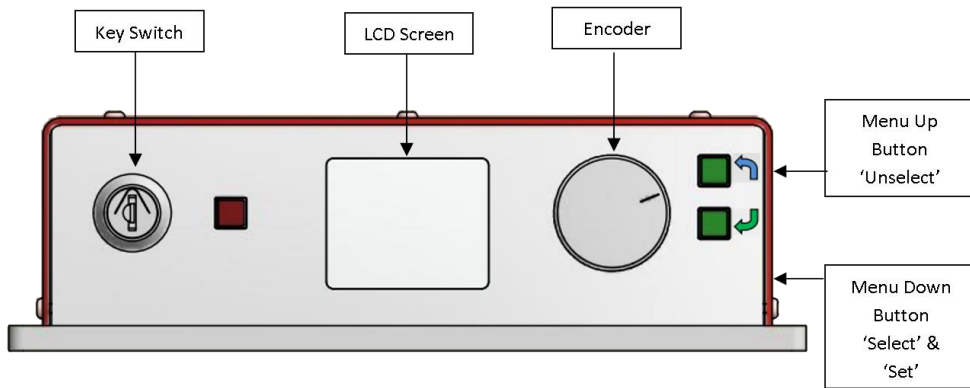

Figure 4-1
- 6 Using the Encoder and Menu Up/Down buttons (see Figure 4.1) the operation current or power can be adjusted (see Front Panel Controls Section).